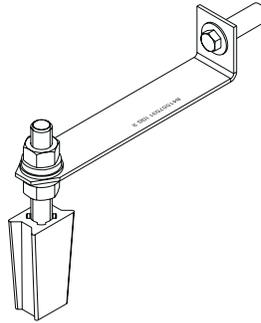
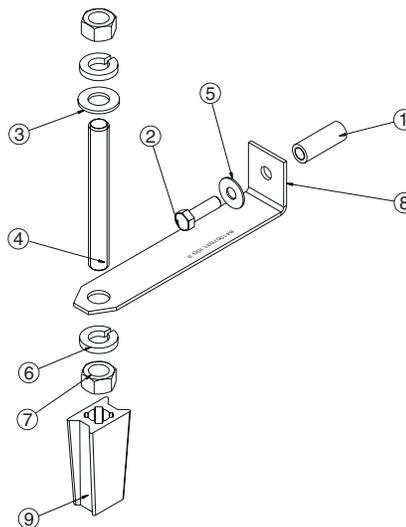

Figure 4-55: Wall Retention Kit
Figure 4-56: Wall Retention Kit Contents
3. Assemble the bracket to the threaded stud hand tight as shown in Figure 4-55 and Figure 4-56.